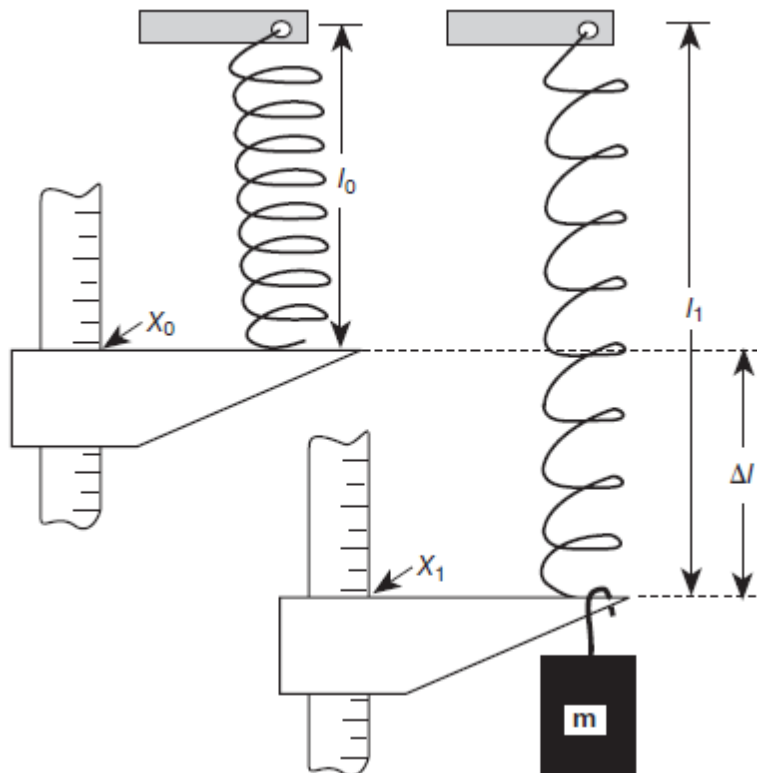

Figure 4.2 By adding the mass, the spring reaction
1. Set up the spring as figure 4.2